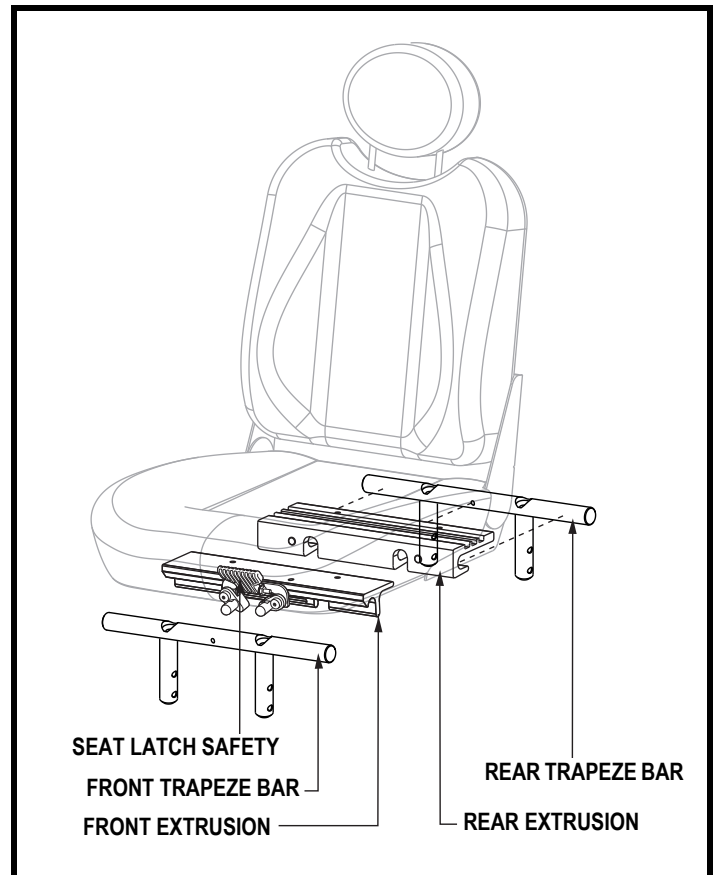

Figure 10. Universal Mounting System
3. Remove both extrusions from the bottom of the seat. **See figure 10.**